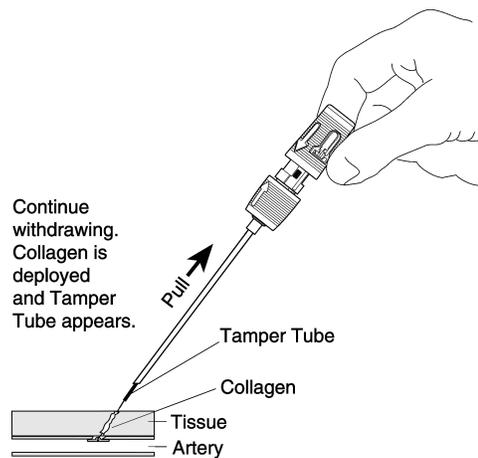

Fig. 13
2. When the insertion sheath clears the skin, a tamper tube will appear (Figure 13). At this stage, grip the tamper tube and gently advance the knot and collagen while maintaining tension on the suture.